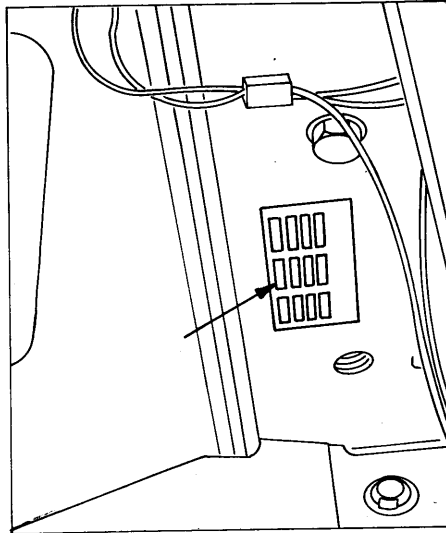

Fig.1.6. Cab Serial Number Plate
- The cab serial number plate is located inside the cab in the right front corner near the floor board (Fig. 1.6).